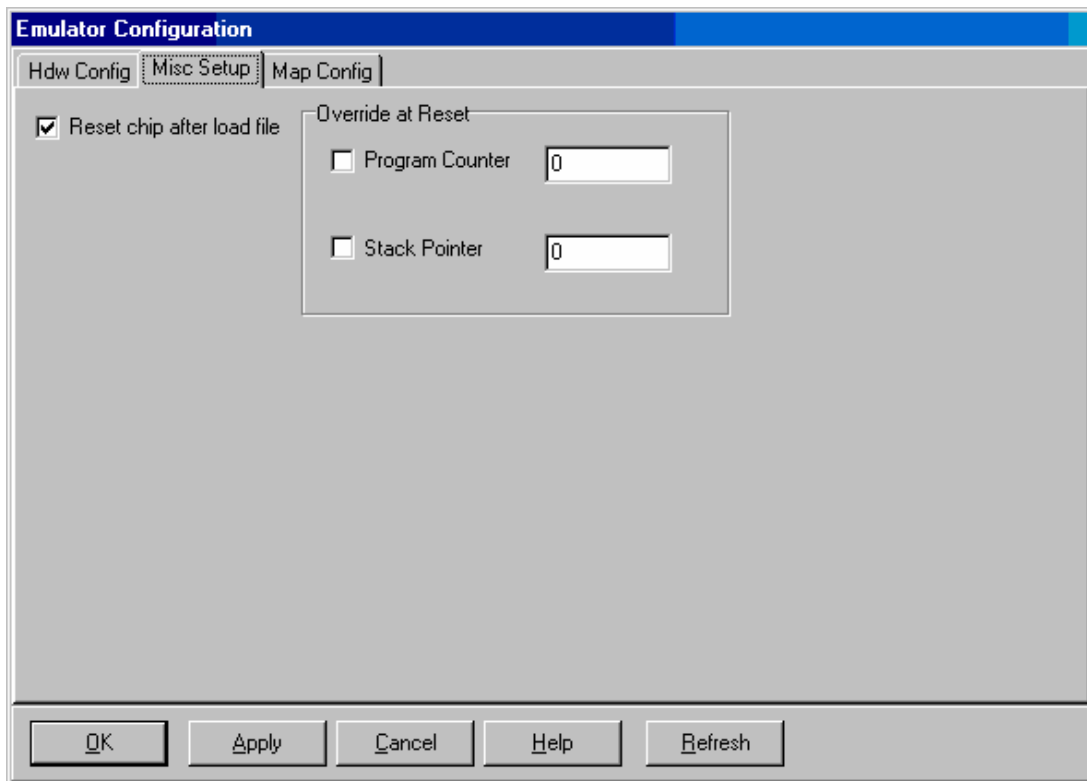

Figure 2-19: Emulator Configuration Window Displaying the Misc Setup Tab
- The **Misc Setup** tab (Figure 2-19) is accessible only after the initial software configuration.